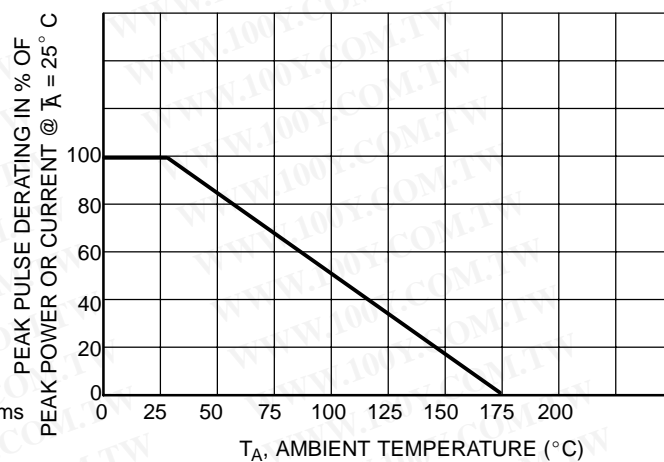

Figure 2. Pulse Derating Curve
1. Nonrepetitive current pulse per Figure 4 and derated above $T_A = 25^\circ\text{C}$ per Figure 2.